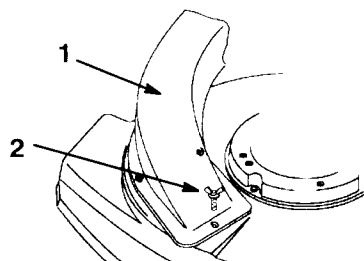

Figure 44
6. Push the keyhole slots on the chute down over the two shoulder bolts on the lawn mower housing and slide the chute clockwise to lock it in place (Fig. 44).
7. Secure with the wing screw (Fig. 44).